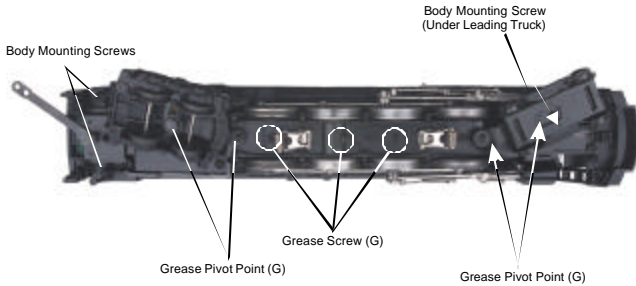

Figure 14
1. Remove the boiler bottom by following the instructions in Figures 14.